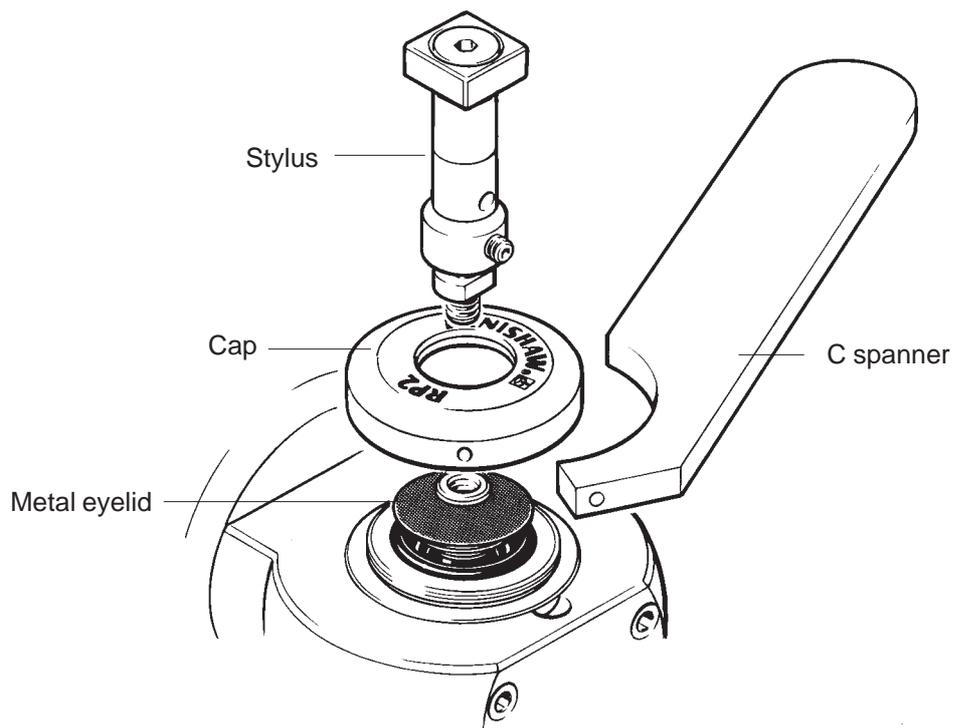

Figure 35
1. Remove the stylus (see figure 35).